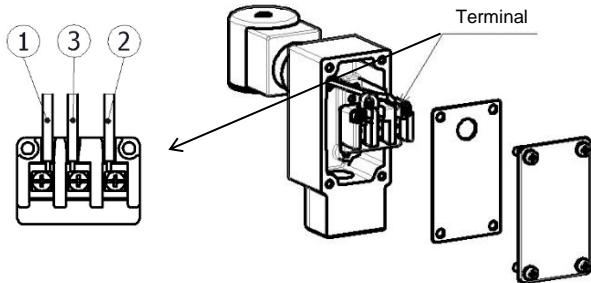

Figure 7. Conduit terminal construction
- Tighten screws and fittings according to Figure 7.